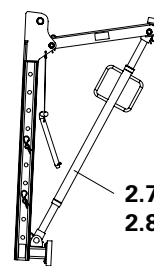

Fig. B1.03b
3. Attach pre-adjusted Kicker AV 111 (2.8) or AV 140 (2.7) to the Bracket Cantilever and Bracket Post using bolts and cotter pins. (Fig. B1.03b)